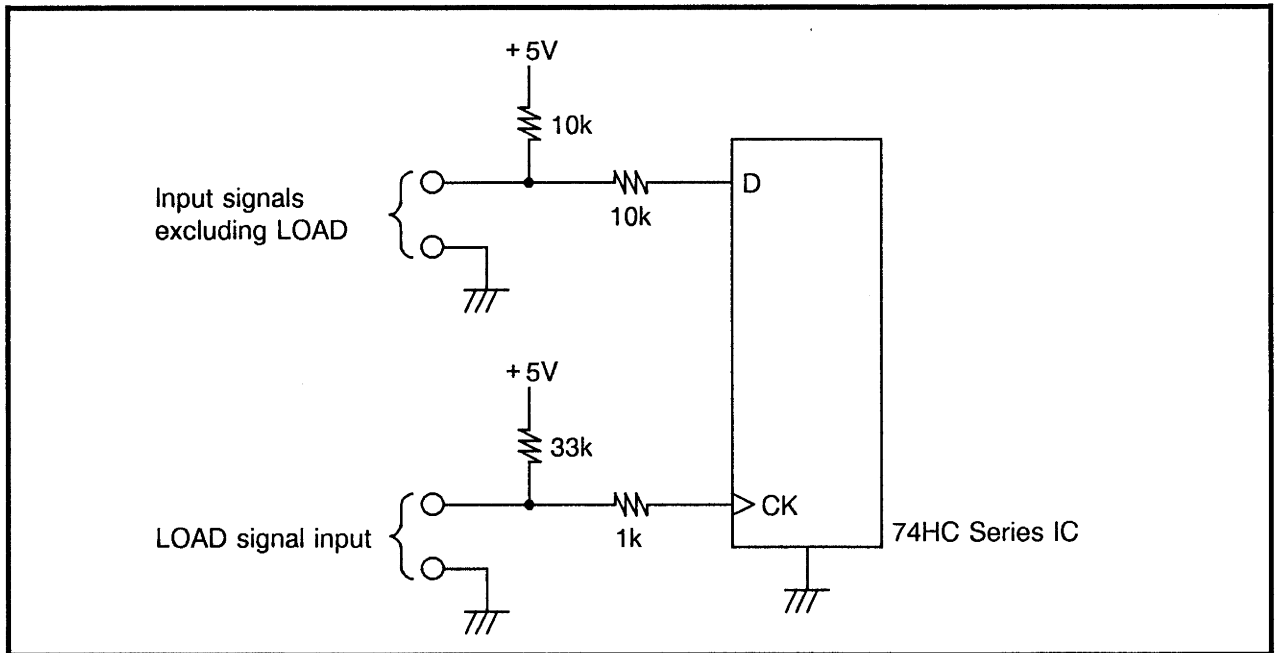

Figure 5-1 BCD Parallel Interface Input Circuit
- Input circuit : See Figure 5-1.